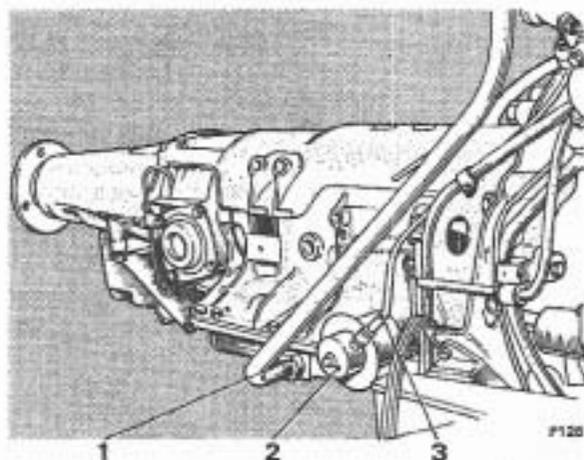

FIG. T175 VACUUM MODULATOR AND VACUUM PIPE
2. Disconnect the vacuum pipe at the modulator end if the transmission is in the car (see Fig. T175).